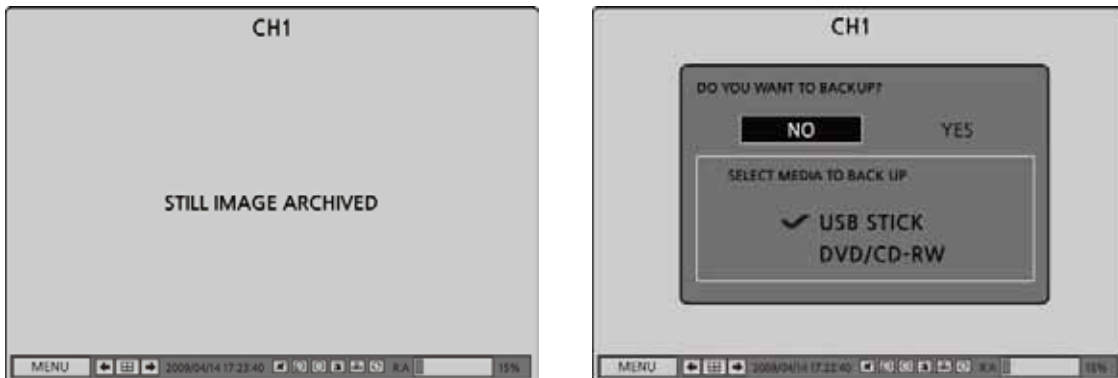

Figure 6.1.1. Still Image Archiving and Backup Screen
1. When you press BACKUP button, the archiving screen will display as Figure 6.1.1.